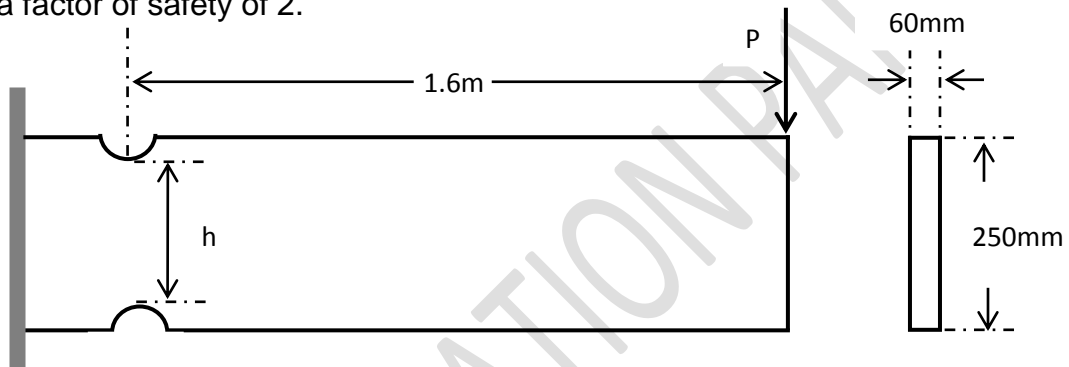

Figure Q5a
- a) The beam in Figure Q5a is made from an aluminum alloy ($E = 72.0 \text{ GPa}$, $Y = 330 \text{ MPa}$, $\sigma_U = 470 \text{ MPa}$, and $\sigma_{am} = 170 \text{ MPa}$ for 10^7 cycles of completely reversed load). The beam is subjected to 10^7 completely reversed cycles of load P . If $h = 200 \text{ mm}$ and $p = 25.0 \text{ mm}$, determine the magnitude of P , based on a factor of safety of 2.